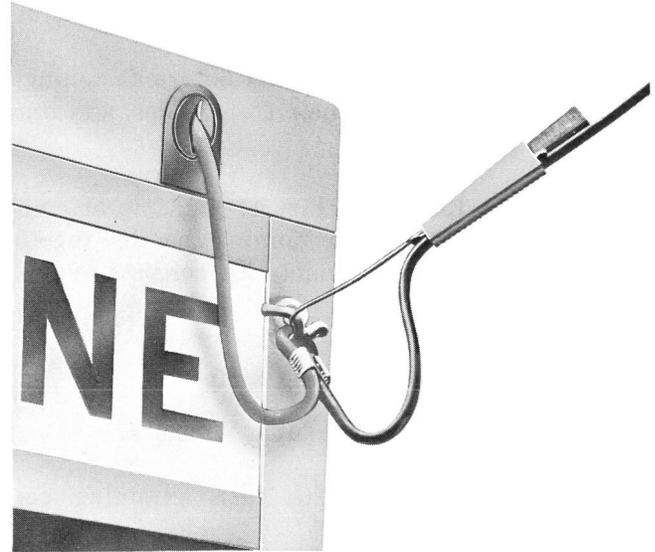
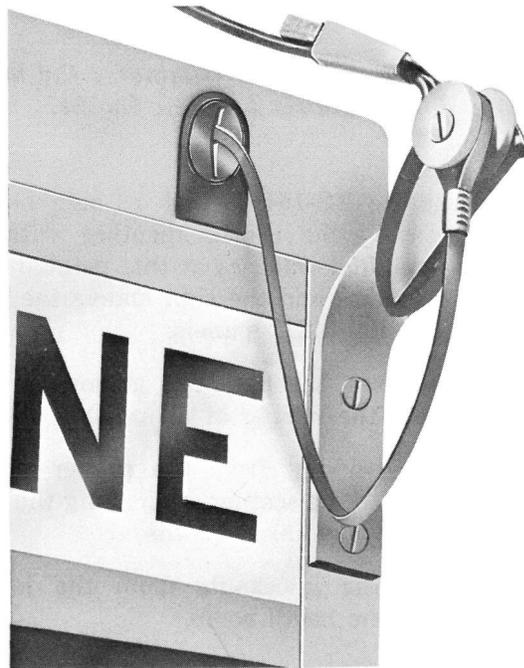

Fig. 4 – Drop Wire Hook (Right Side)
Fig. 5 – Corner Bracket as First Attachment (Right Side)
A. Drop Wire Hook (Fig. 4)
- (1) Drill 11/32-inch hole 2 inches below top of column and 1 inch from outside corner.
- (2) Attach drop wire hook with 5/16 by 2-inch stove bolt and 3/8-inch corrosion resistant washers.
B. Corner Bracket (Fig. 5)
- (1) Drill 11/32-inch hole two inches below top of column and 1 inch from outside corner. Use corner bracket to determine exact location for second hole.
- (2) Attach corner bracket with 5/16 by 2-inch stove bolt and 3/8-inch corrosion resistant washers.